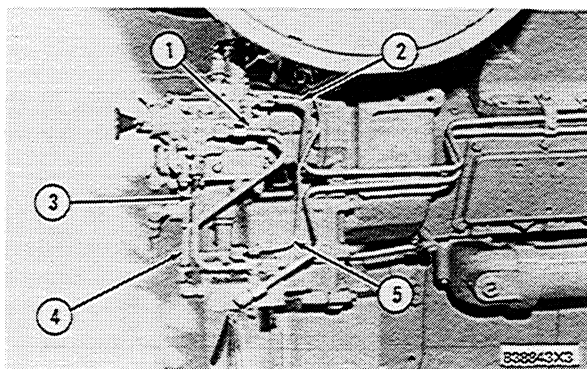
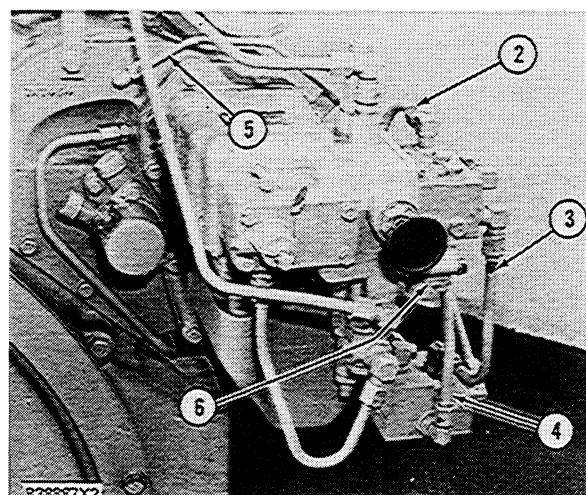

FIGURE 1. PROTECTIVE SYSTEM OIL LINES
FIGURE 2. PROTECTIVE SYSTEM OIL LINES
Engine Start-Up Override Not By-Passing Oil Pressure By Shutoff Control Group To Drain	Disconnect drain line (5), See Figure 1. Operate the override (push button switch for electric, push button valve for air) and crank the engine. Oil should flow from drain line. If not, inspect the solenoid or air operated two-way valve and the push button switch or push button air valve and lines.
Engine Oil Pressure Is Too Low	Install a pressure gauge in oil line (2) or in port (1) behind oil supply line (4), see Figure 1. Operate the start-up override and start the engine. Engine oil pressure must be 175 kPa (25 psi) minimum at low idle and 240 kPa (35 psi) minimum at rated speed.
The Oil Return Line Between Diverter Valve And Shutoff Control Group Is Plugged	Disconnect oil return line (3) at the shutoff control group, see Figure 1. Crank the engine without using the start-up override valve. Oil should flow out of the oil return line. Check the oil line for damage and clean or replace as needed.
Remote Normal Shutoff Still Activated	Disconnect oil return line (3) at the shutoff control group, see Figure 1. Crank the engine without using the start-up override valve. Oil should flow out of the oil return line. If there is no oil flow and the line is not plugged or damaged, check the remote normal shutoff system. Make a repair or replacement of worn or damaged parts and clean the valve if necessary.
Engine Oil Pressure Sensing Portion Of The Control Group Has Malfunctioned	Remove cover (6), see Figure 2. Inspect the valve spools in the actuator valve body to make sure valves are not stuck. Replace cover (6) after inspection.  Check the engine oil pressure. Install a pressure gauge in oil line (2) or in port (1) behind oil supply line (4), see Figure 1. Operate start-up override and start the engine. If the engine oil pressure is equal to or greater than 175 kPa (25 psi) at low idle and 240 kPa (35 psi) at rated speed, replace the oil pressure sensing group (part of the shutoff control group).
Engine Oil Pressure Is Not High Enough In The High Speed Range	Check engine oil pressure in oil line (2), see Figure 1. A minimum of 240 kPa (35 psi) is required in high speed range. Clean the engine oil pressure line to the shutoff control group, if needed. Also, engine repair may be needed.
Drive Coupling Failure	Start the engine and run at low idle. Loosen the nut that holds oil supply line (4) at the shutoff control group, see Figure 1. Oil under pressure should be present. If not, remove shutoff control group and inspect the drive coupling. Make a replacement of parts as needed. A pressure gauge installed in oil supply line (4) [see Figure 1] can also be used to make this check. A minimum pressure of 590 kPa (85 psi) at high idle should be the reading.